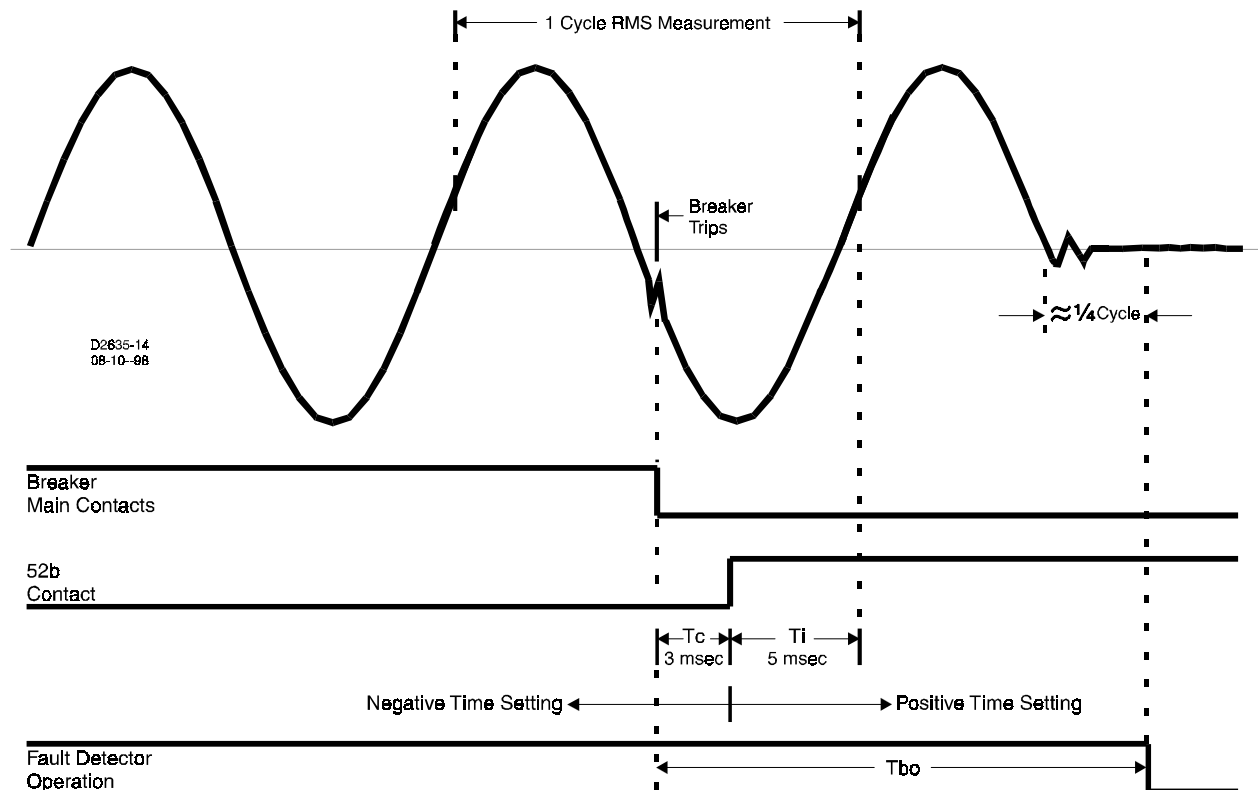

Figure 4-7. *Tc and Ti Timing Diagram*
3. Set the Tc parameter of the BKRCON command for a breaker whose 52b contact closes three milliseconds after the main contacts part. Set Ti for 5 milliseconds. The timing diagram is shown in Figure 4-7.